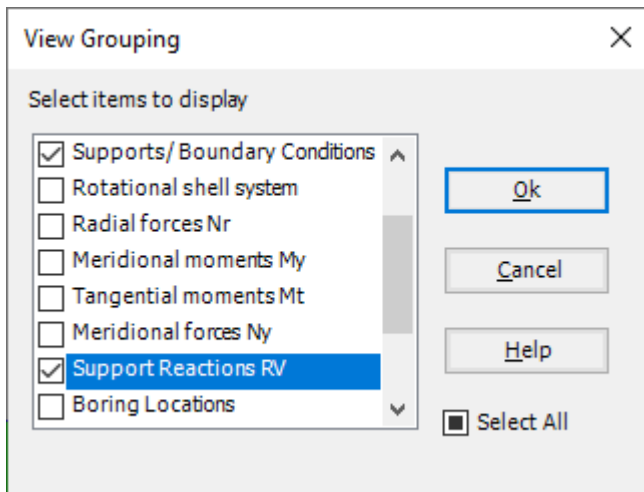

Figure 2.32 "View Grouping" check group box
- From "Options" menu in the "Graphic" tab, choose "View Grouping" command. The "View Grouping" check group box in Figure 2.32 appears